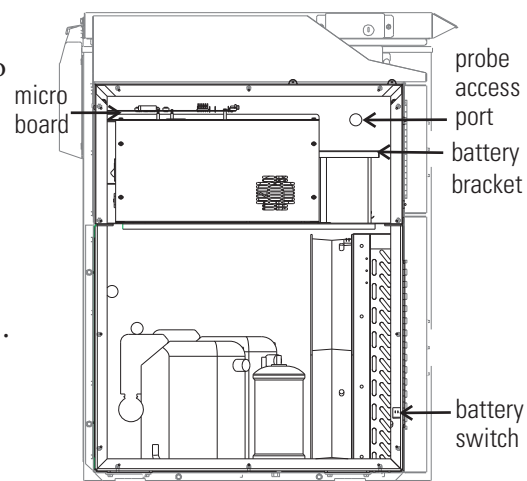

Figure 5-1. Battery and Switch location
3. Turn off the battery switch (O). See Figures 5-1 and 5-2.
8. Turn the battery power switch to Standby mode (C).
2. Locate the battery power switch (Figure 5-1). Turn the battery power switch to the Off position (O).
4. Remove the three nuts securing the battery bracket. See Figure 5-1.
All Models except 3 cu ft (Figure 5-1):